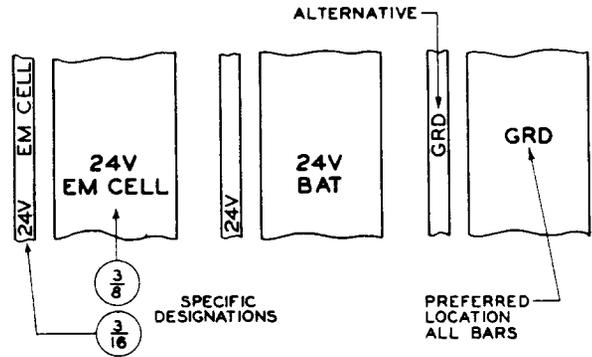

Fig. 12 - Bus Bar Risers at Emergency Cell Switch Bay
2.14 Designate bus bar battery risers at emergency cell switch bay to indicate the battery with which they are associated. Designate bus bar connections to emergency or counter cells with the type and number of the cell. (See Fig. 12.)